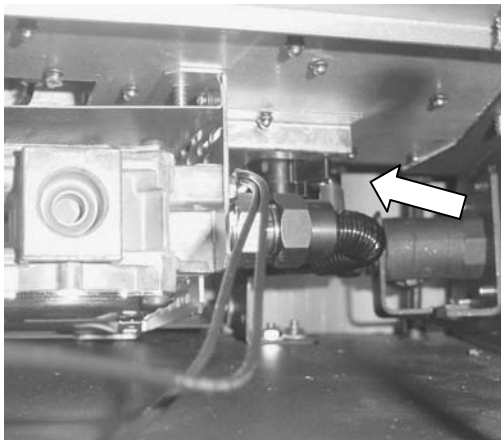
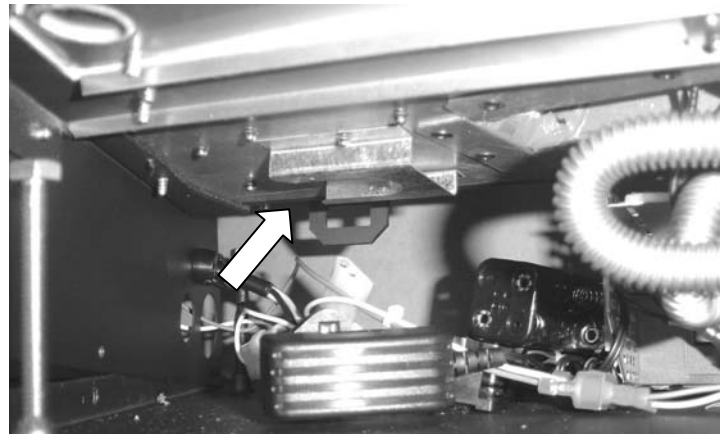

Figure 7
Figure 8
**NOTE:** The snap disc holder may be on the right or left, depending upon when the insert was manufactured. See Figure 7 and Figure 8 for pictures of the two locations.